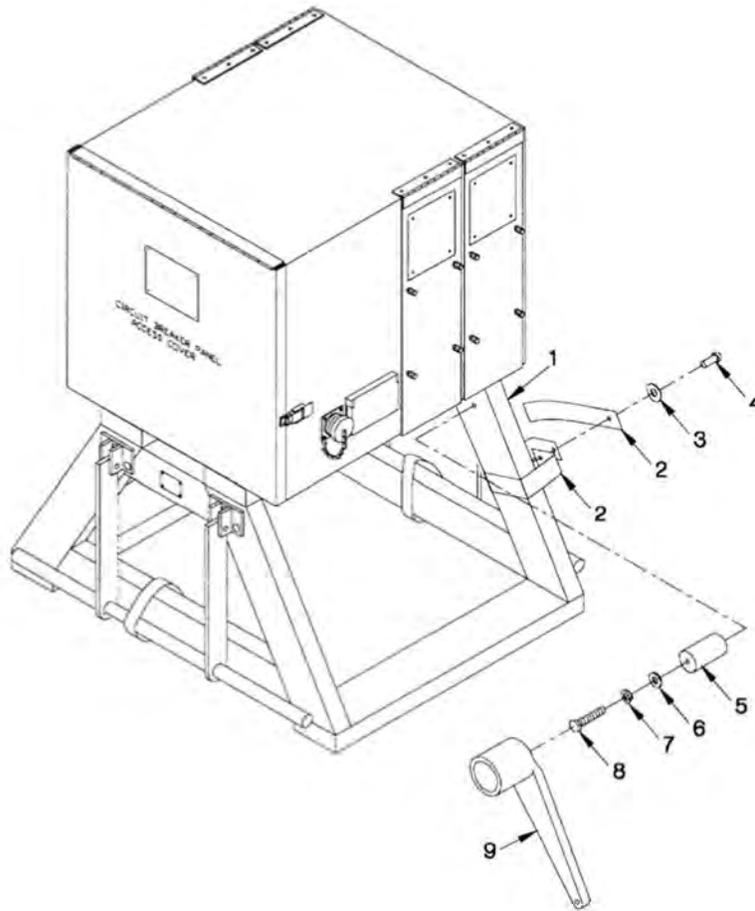

Figure 1. Wrench Standoff and Fastener Tape.
6. Place wrench (Figure 1, Item 6) on standoff (Figure 1, Item 1) and secure it by securing fastener tape (Figure 1, Item 2) on handle of wrench.
7. Install fastener tape (Velcro) (Figure 1, Item 2) by lining up rivet (Figure 1, Item 4) with washer (Figure 1, Item 3) over hole on pedestal (Figure 1, Item 1). Install rivnut using hand riveter.
8. Position standoff (Figure 1, Item 5) and secure it by installing one each flat washer (Figure 1, Item 6), one lock-washer (Figure 1, Item 7) and one each bolt (Figure 1, Item 8).
9. Place wrench (Figure 1, Item 9) on standoff (Figure 1, Item 5) and secure it by securing fastener tape (Figure 1, Item 2) on handle of wrench.